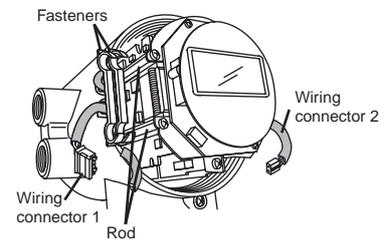

Figure 4.9.5 Detach Two Lead Wire Fasteners
- (4) Pulling up wire together with connector 1 and two lead wire fasteners be moved along the rods upwards letting two fasteners close by together.
- (5) Detach two lead wire fasteners from the rods to be able to see mounting screws. (Figure 4.9.5)
- (4) Tighten the three mounting screws while holding the assembly with your hand.
- (5) Attach two lead wire fasteners to the rods.(Figure 4.9.5)